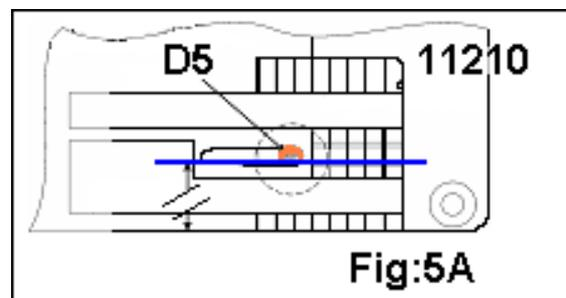

Fig:5A
9. Check to see if the needle is parallel with the throat plate (11210) See also Fig: 5A.